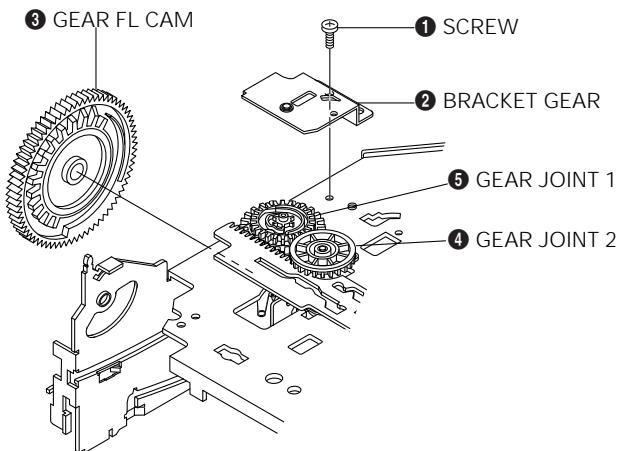

Fig. 1-9 Bracket Gear, Gear FL Cam, Gear Joint 1, 2 Removal
- 1) Release the Hook [A] in the direction of arrow and, remove the Holder Worm ①.
- 2) Remove the Gear Worm ②.
- 3) Remove the Gear Worm Wheel ③. (After removing the Gear FL Cam as shown Fig. 1-9)